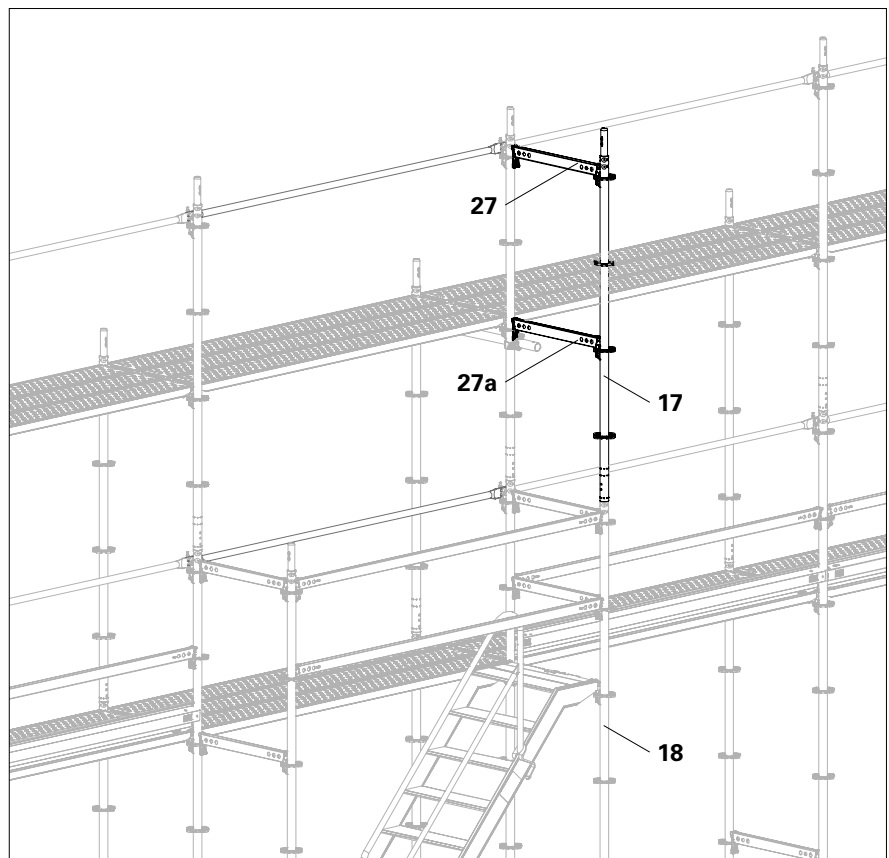

Fig. B8.06
3. Connect Standards UVR 200 (**17**) with Horizontal Ledgers UH-2 75 (**27a**) to the basic scaffold. Secure the wedges. (Fig. B8.06)